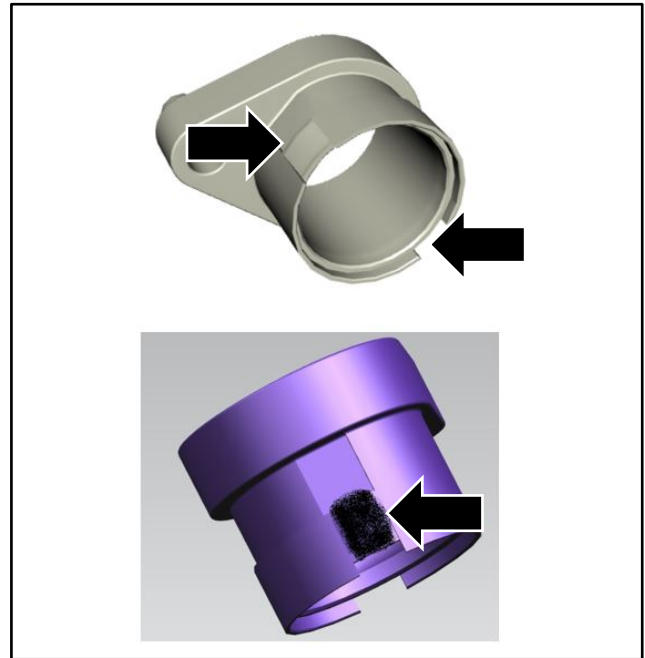

Figure 6
7. Apply LOCTITE 480 to the adaptor in the positions shown (refer to Figure 6).